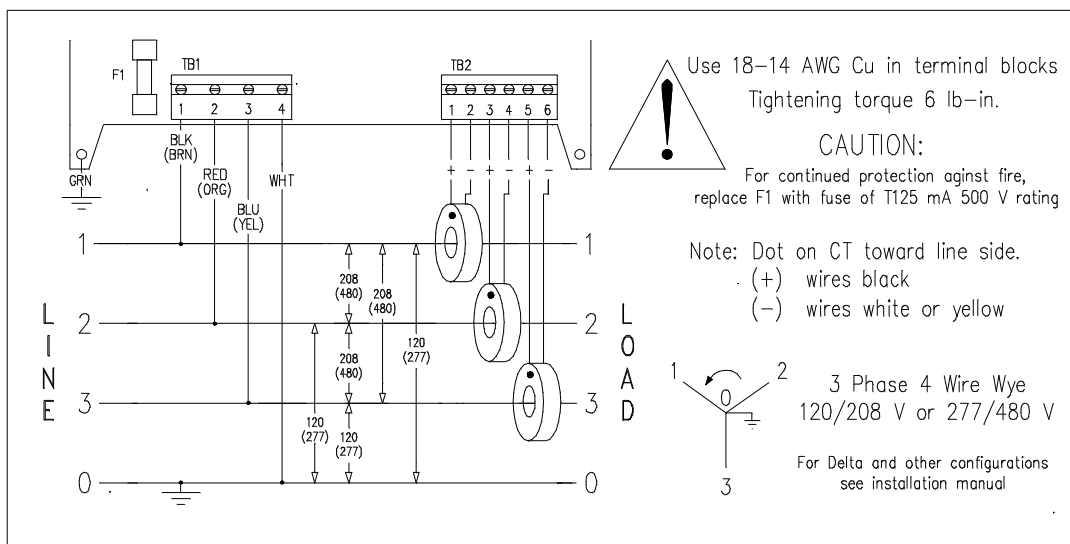
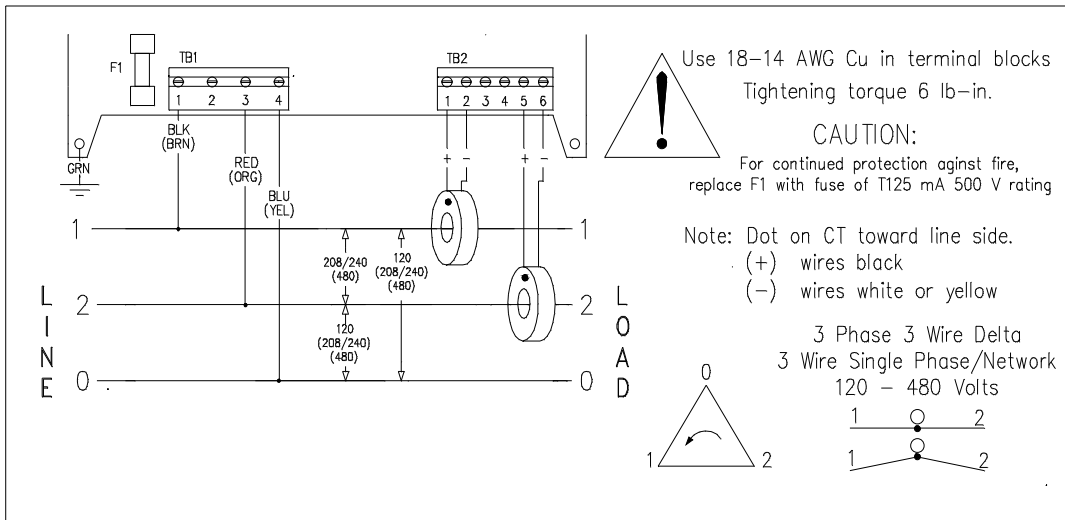

Figure 3 Wiring Diagram for 3-Phase 4-Wire Wye or Delta Service
Figure 4 Wiring Diagram for a **3-Phase 3-Wire Delta, Single Phase 3 Wire & Network Service**
Step 5 Referring to the wiring diagram on the inside of the meter cover, terminate CT, voltage, ground, and neutral leads. See Figure 3 for a 3 Phase 4 Wire Wye or 4 Wire Delta service and Figure 4 for a 3 Phase 3 Wire Service.
- c) Using the wiring diagram found on the inside of the meter cover, make the appropriate voltage and current lead connections. Refer to Figure 3 for a wiring diagram for a 3-Phase 4-Wire Wye or Delta service and Figure 4 for a 3-Phase 3-Wire Delta service.